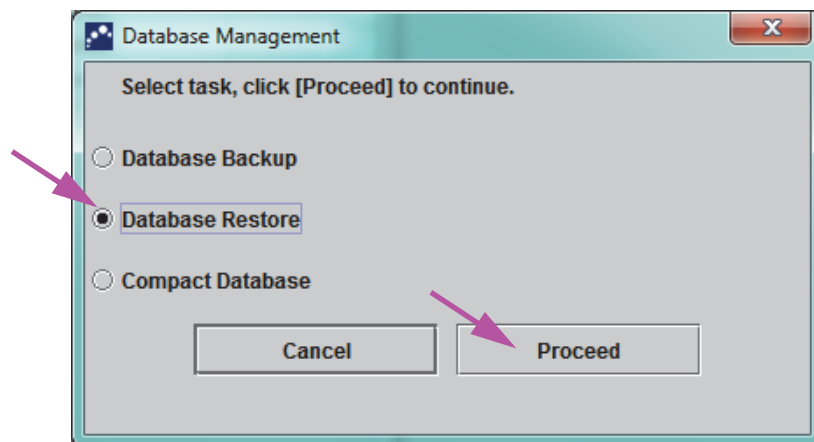

Figure 5-66. Database Management Window
1. Select **Database Restore** on the Database Management window. See Figure 5-66.
9. Either click **Proceed** in the Database Restore confirmation dialog box to continue, or click **Cancel** to discontinue and return to the Database Management screen (see Figure 5-66).
1. Select **Compact Database** on the Database Management window. See Figure 5-66.